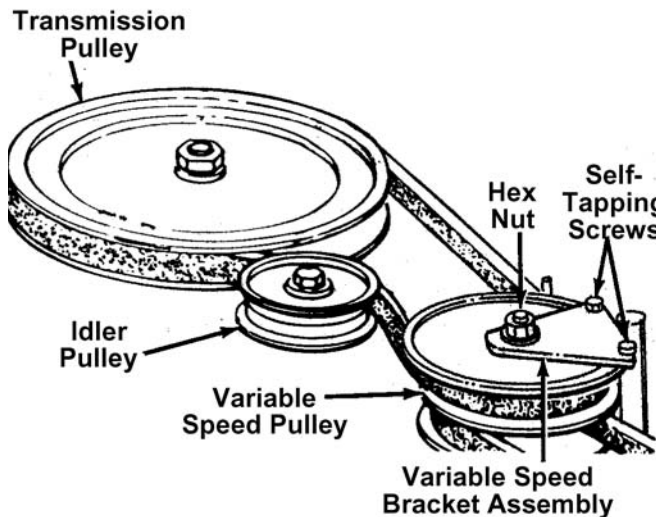

Figure 7-43. Front Drive Belt Removal
- Push the idler pulley toward the right side of the unit. Lift the belt over the idler pulley. See Figure 7-43